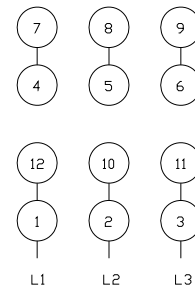

FIG 27
- 4.) EPAC motors are supplied with 12 leads. Because of this, two wiring configurations can be used depending upon customer requirements: Y Start and Delta Run. The motor **MUST** be wired in the Delta Run configuration, unless using a Y-Delta starter (see Fig 27, or motor nameplate). **CAUTION:** Motor damage **WILL** occur if the motor is wired incorrectly.